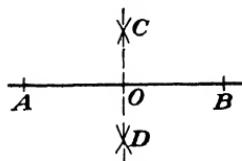

Fig. 118.
- a. Open a compass a distance which you estimate to be greater than one-half of AB (see Fig. 118).